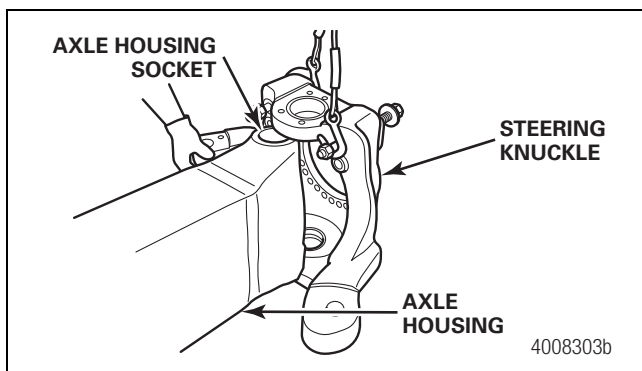

Figure 8.6
8. Use a lifting device to support the knuckle assembly. Guide the knuckle assembly into position and install it onto the axle housing. Figure 8.6.